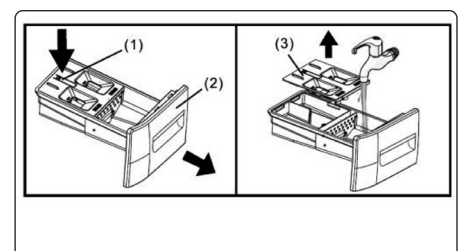

Fig.9
- **CLEANING THE DETERGENT DISPENSER (fig.9)**